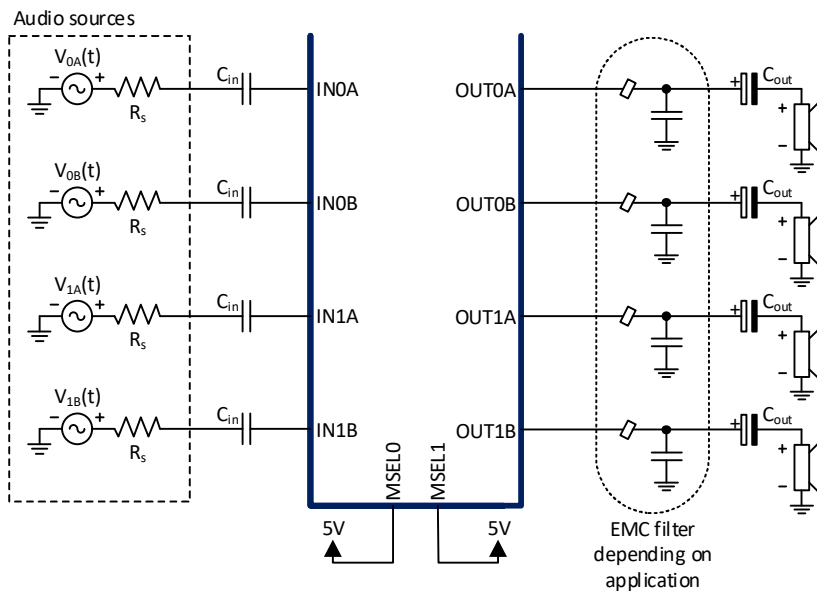

Figure 9-3 Four channel, single ended (SE) configuration
In single ended (SE) configuration, the MA12040 is able to drive one loudspeaker per output power stage, i.e. up to four loudspeakers. The output is biased to half the power supply voltage,  $\frac{1}{2} PVDD$ . One of the solutions to drive a speaker in this configuration is to use AC-coupling capacitors ( $C_{out}$ ) in series with the load, as shown in Figure 9-3. The value of the capacitors depends on the load resistance and the desired audio bandwidth.